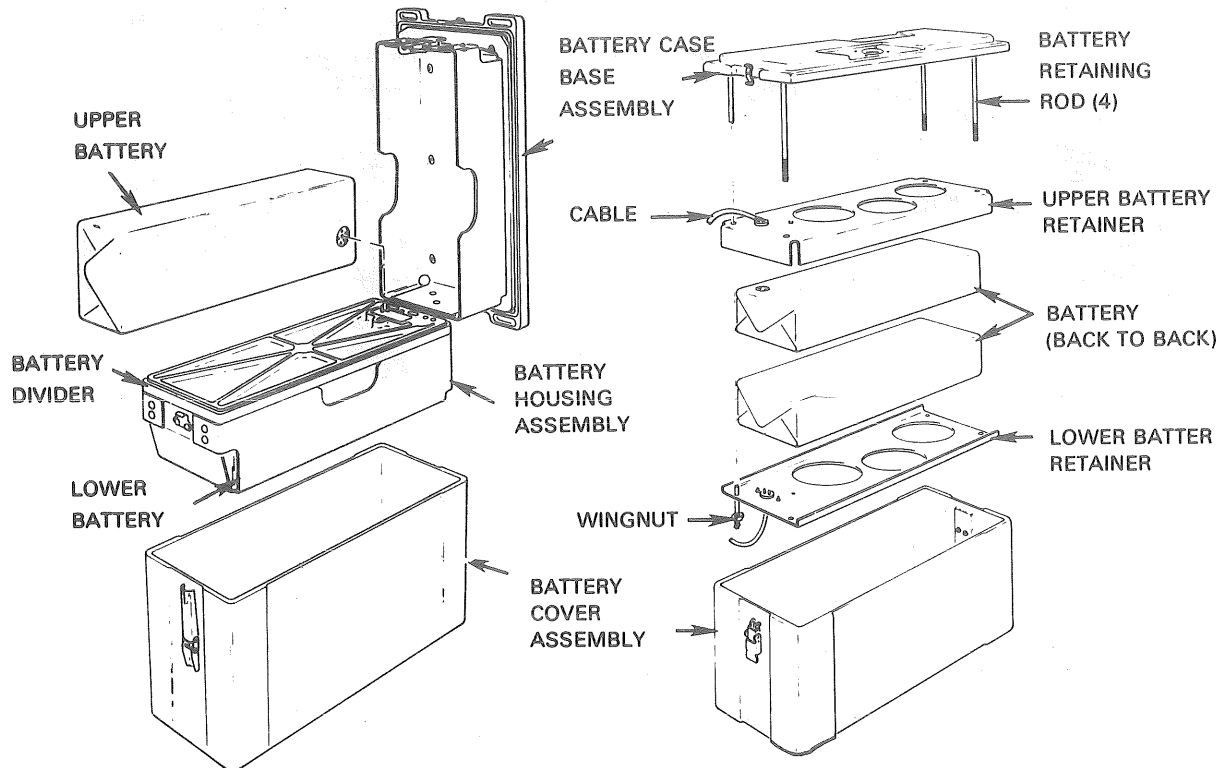

Figure 1. Dry battery for Battery Boxes CY-6314A/PRC-74 or CY-6314/PRC-74.
- a. If using battery pack (Battery Box CY-6314/PRC-74), insure that batteries are installed as shown in figure 1.